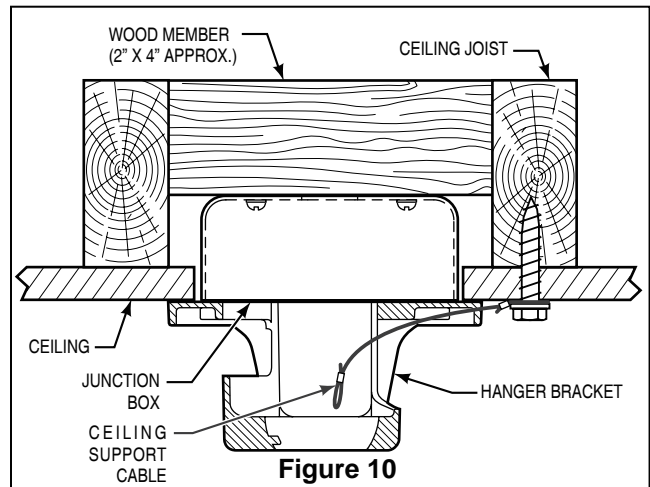

Figure 10
1. Securely attach the hanger bracket to the outlet box using the outlet box screws and washers supplied with the outlet box. (Figure 10)
2. Drill a 1/4" pilot hole into the building structure to prevent splitting or cracking with installation of the lag bolt. Using the 3/8" x 2" lag bolt and flat washer, attach safety cable to ceiling joist or wood structural member. The lag bolt will pass through the flat washer, safety cable loop, and into the building structure. (Figure 10)
NOTE: Ceiling support cable cannot be secured to junction box only, it must be directly secured to ceiling joist or structural member using the 3/8" x 2" lag bolt and flat washer. (Figure 10)